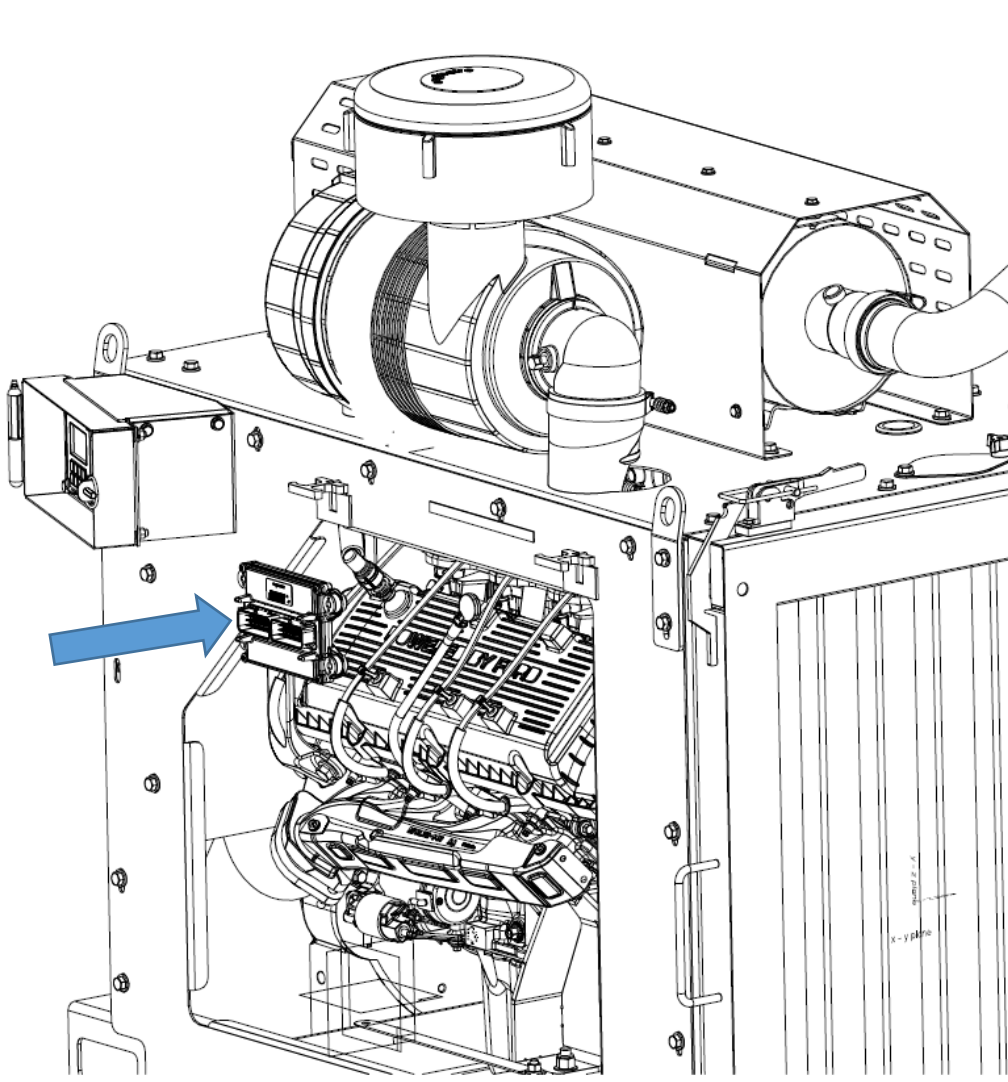

Figure 7
- 1) See Figure 7. Remove screws.